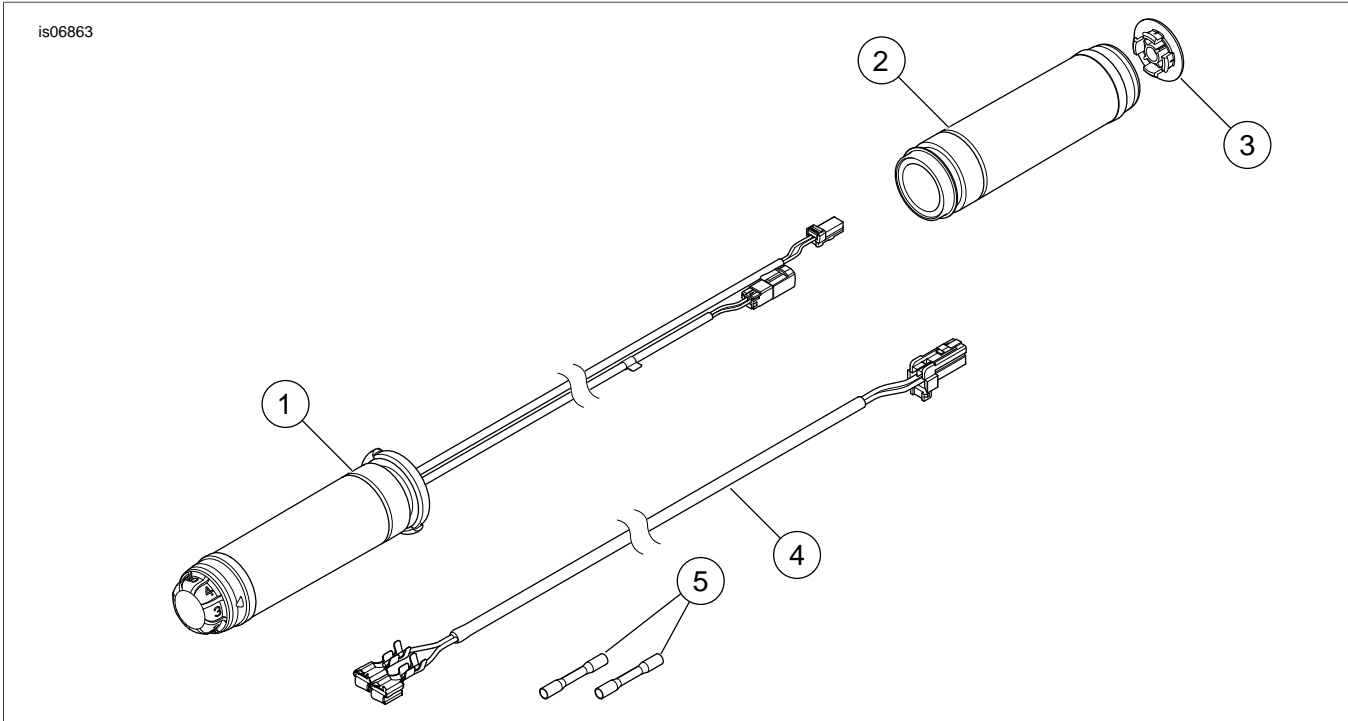

Figure 9. Service Parts, Heated Hand Grip Kit
1. See Figure 9. Obtain harness assembly from kit. Cut the two spade terminals from harness.
- b. See Figure 9. Splice into fender tip light wiring near connector using two splice connectors (5) from kit.